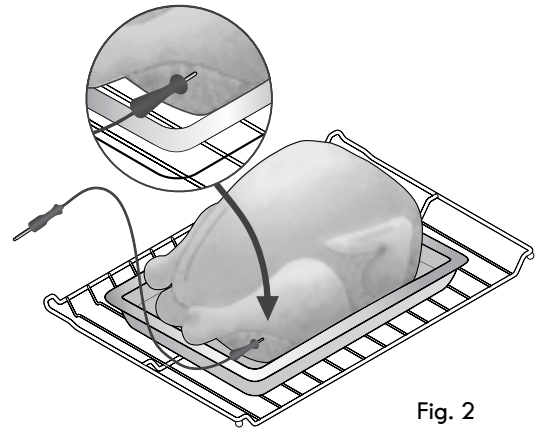

Fig. 2
- For whole poultry or turkey, insert the probe into the thickest part of the inner thigh, below the leg -Fig. 2-.